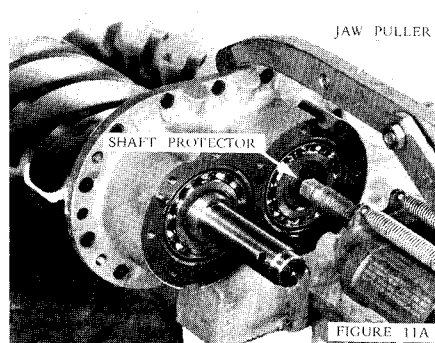
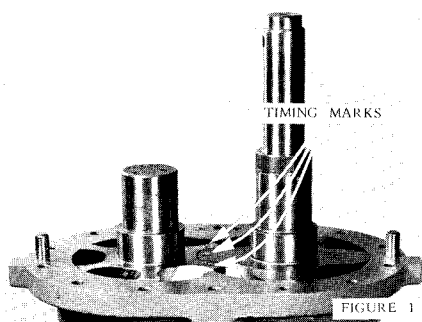

FIGURE 11A
FIGURE 1
8. Remove gear spacer, bearing locknut and washer, and five (5) outer race retainer screws and washers.
9. Remove the shaft extension cover. Remove all bearing cover to discharge end plate screws. With two (2) jack bolts, pull the bearing cover from dowel pins. Tighten jack bolts evenly to prevent binding on dowel pins. Remove bearing outer race shims from bearing bore.
10. Remove all discharge end plate to cylinder screws. *NOTE: See arrow in Figure 1.* With four (4) jack bolts, pull the end plate, fixed bearings and rotors from cylinder as an assembly. This will pull rotor shafts through bearings at inlet end. Take care that the bearings do not fall from inner race if they are to be reused. Be careful not to burr rotors or cylinder during this operation.
11A. An alternate method to press rotor shaft through bearings is with a jaw type puller as shown in Figure 11A. Use shaft protector to prevent damage to shaft.
- Stand the cylinder on blocking high enough to clear the main rotor shaft extension. Check in the bottom of the cylinder and cylinder walls for burrs. Coat both bores, bottom of cylinder and walls with oil. Check ends, lobes and cavities of rotors for burrs. Coat rotors with oil. Lower rotors into the cylinder. The main rotor is installed with the shaft extension with keyway down. The secondary rotor is installed with the shortest shaft extension down. Make sure the timing marks on the ends of the rotors line up, Figure 1. Timing marks are also rotor pair identification marks. Rotors must be matched pairs for proper operation. **DO NOT INTERMATE ROTORS WITH DIFFERENT TIMING-IDENTIFICATION MARKS.** Rotate the rotors to be sure they rest squarely in the bottom of the cylinder.
Check both rotors. Refer to clearance chart for correct value. Since the lower end of the rotors are not yet held by bearings, there may be a slight out-of-square condition noticed in this check. Lower the end plate and rotor assembly into the cylinder and bolt tight. Torque all fourteen (14) screws per table on page 3, this section. When tightening and torquing, follow the pattern shown in Figure 11A. See Figure 1 in "Disassembly" for screw on reverse side of the cylinder flange.